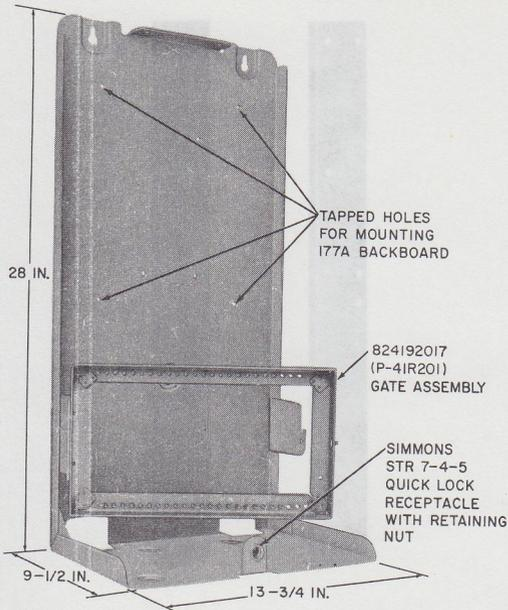

Fig. 26—Floor Stand per ED-69462-50, Group 1
6.01 The floor stand per ED-69462-50, Group 1 (Fig. 26) is a steel floor stand designed to hold a 177A backboard or equivalent. An auxiliary gate is included for mounting a J86731D, List 1 power plant (or physical equivalent). The floor stand may be wall mounted, if desired, by means of slotted holes provided for the purpose.